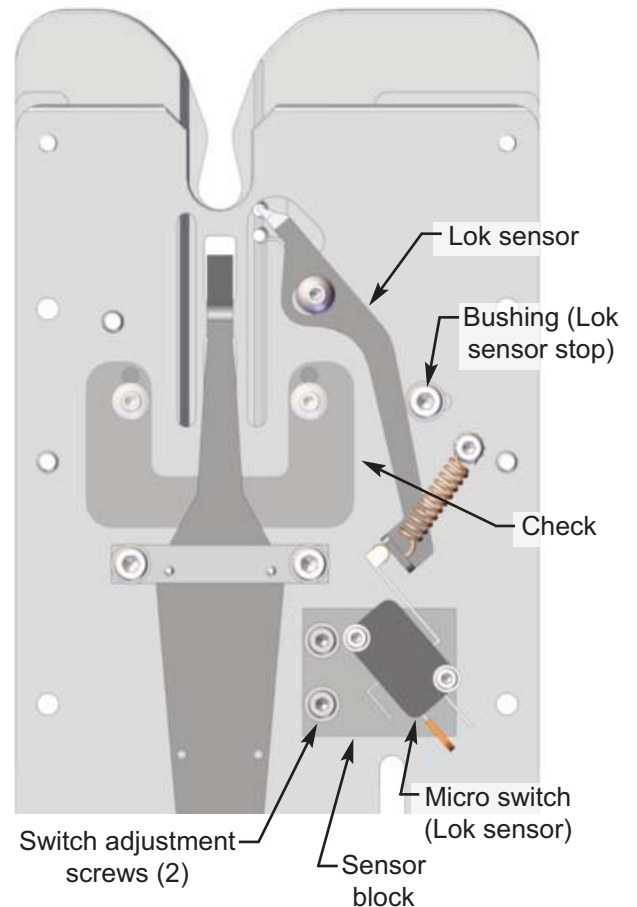

Figure 3.9
I. LOK SENSOR SWITCH ADJUSTMENT: Figure 3.9
4. Slightly loosen the two mounting screws in the sensor block (Figure 3.9).